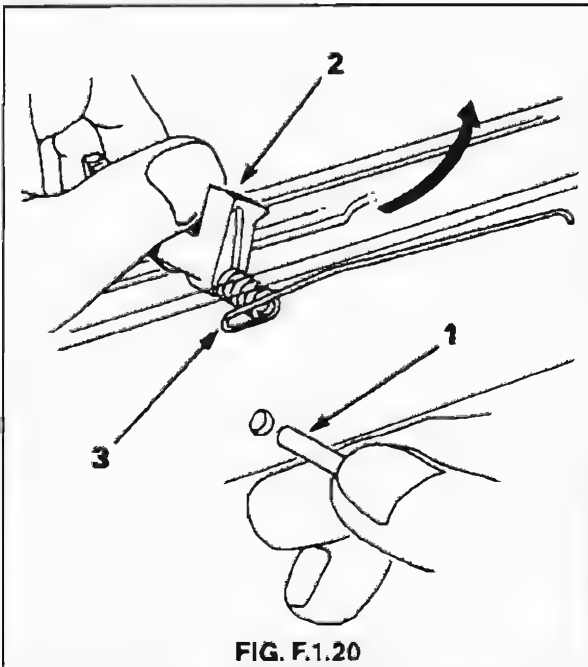

FIG. F.1.20
20. Withdraw the disconnector axis pin and remove the disconnector and the disconnector spring. See Fig. F.1.20.